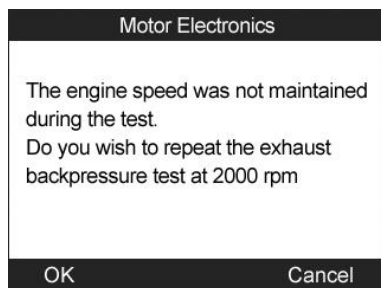

Figure 11.43
- If the engine is not running at 2000 rpm, the tool will display a warning message. (Figure 11.43) Select **OK** to repeat the test or select **Cancel** to exit.